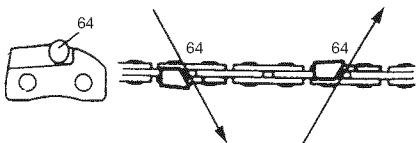

Fig. 40
File (64) cutter on one side of the chain from the inside out. File on forward stroke only. (Fig. 40)